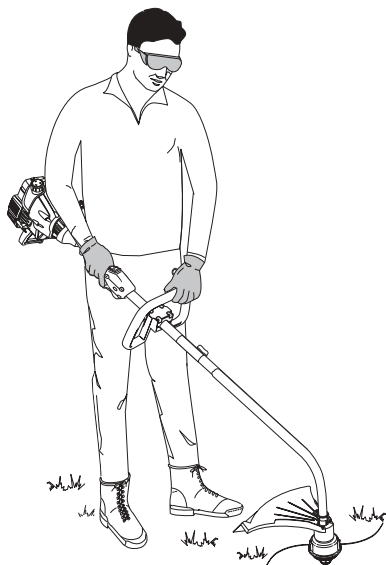

Figure 2
5. While holding the unit in the operating position, position the D-handle to the location that provides you the best grip. See Figure 2.